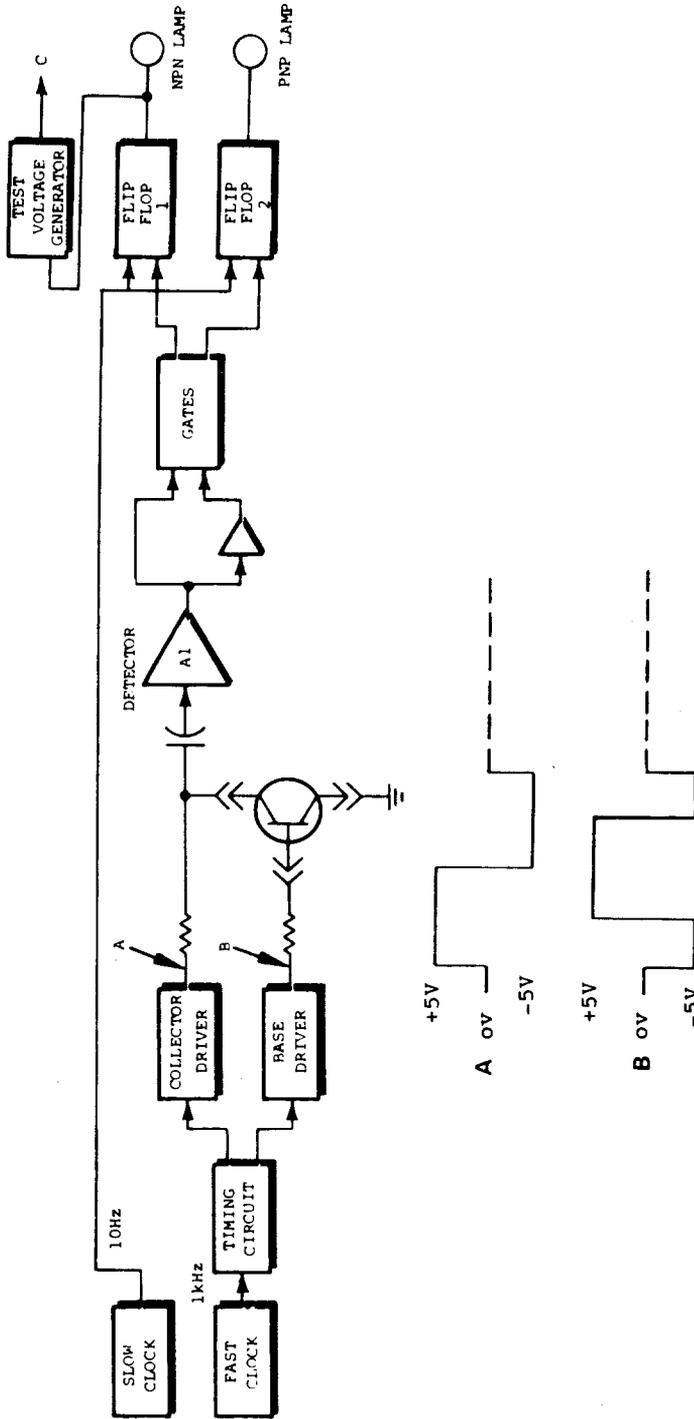

Fig. 2. Block diagram.
4. The 520B circuitry generates a continuous series of pulses specially designed to periodically test a transistor about ten times per second. These short, high-current pulses apply a voltage pulse to the collector, first positive for testing NPN devices, followed by negative for testing PNP (see Fig. 2a). During this pulse, a shorter pulse of the same polarity is applied to the base of the device which drives the collector voltage toward saturation. Taking a closer look at the basic pulse circuitry, refer to Fig. 2. T1 is the period clock, which runs at approximately 10 Hz. It initiates each test period while simultaneously resetting FF1 and FF2. T2 runs at 1000 Hz and controls the pulse-forming circuits.